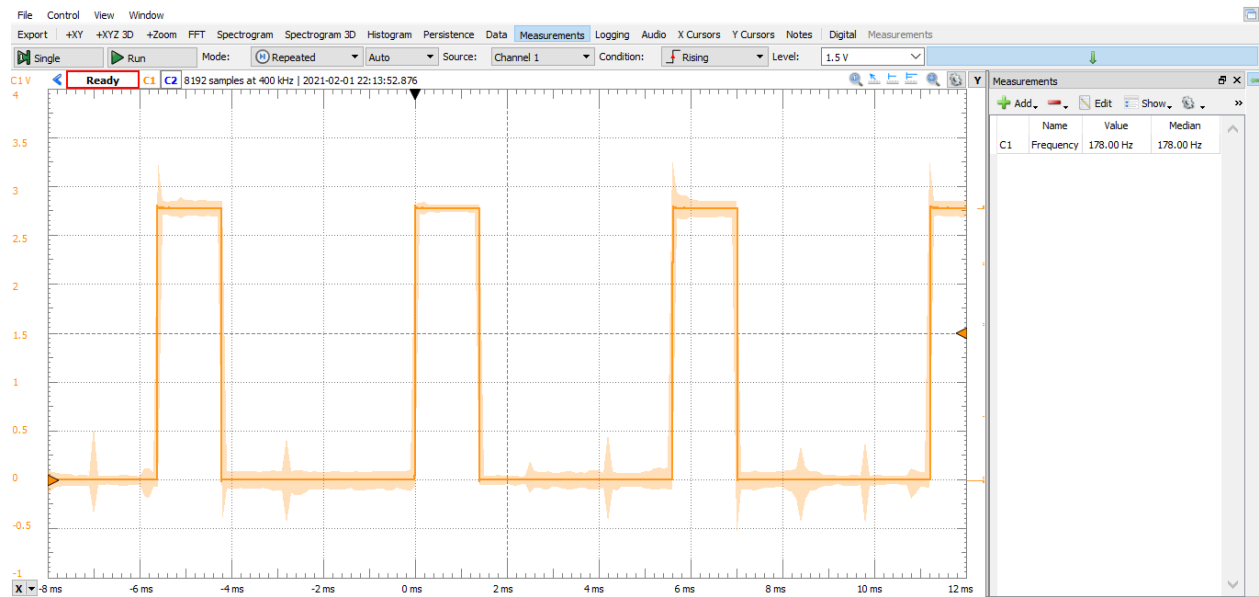

Figure 1: 'Scope Capture.
- A screen capture of the 'scope measurement of the `en0` signal including a frequency measurement. The last two digits of the frequency should match the last two digits of your ID. This might look like Figure 1.